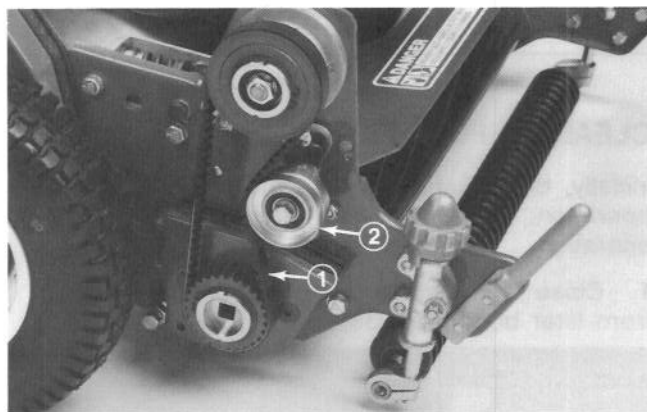
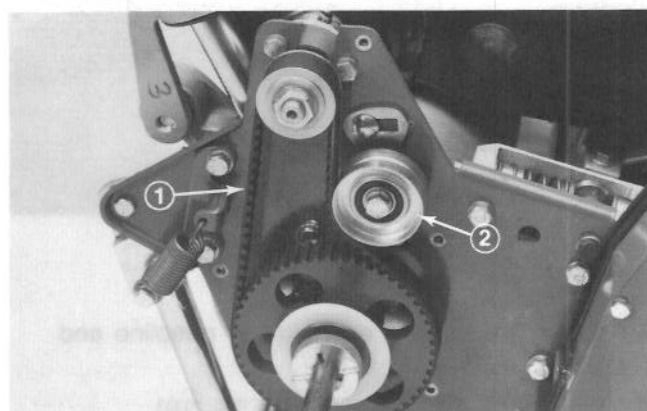
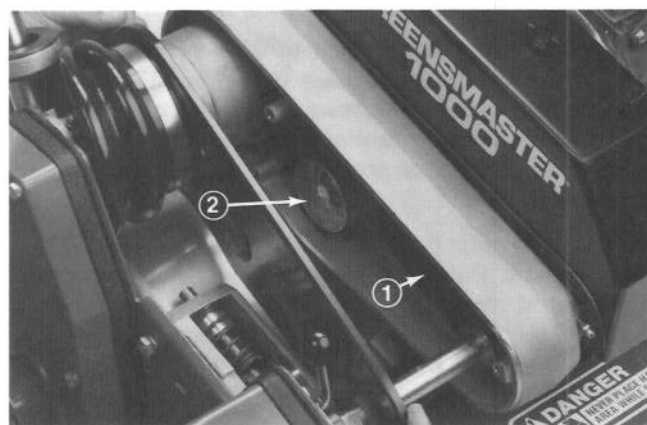

Figure 36
Figure 37
Figure 38
1. To check or adjust belt tension on reel drive belt (Fig. 36), traction drive belt (Fig. 37) remove belt cover mounting screws and belt cover to expose belts. On differential belt (Fig. 38), remove belt cover mounting screws and slide cover away to expose belt.
2. Loosen idler pulley mounting screws relieving belt tension. Pivot the pulley against the backside of belt and apply 20 - 25 lbs of force to the idler pulley. Tighten pulley mounting screws. **DO NOT OVER TENSION BELTS.** Procedure the same for all (3) belts.